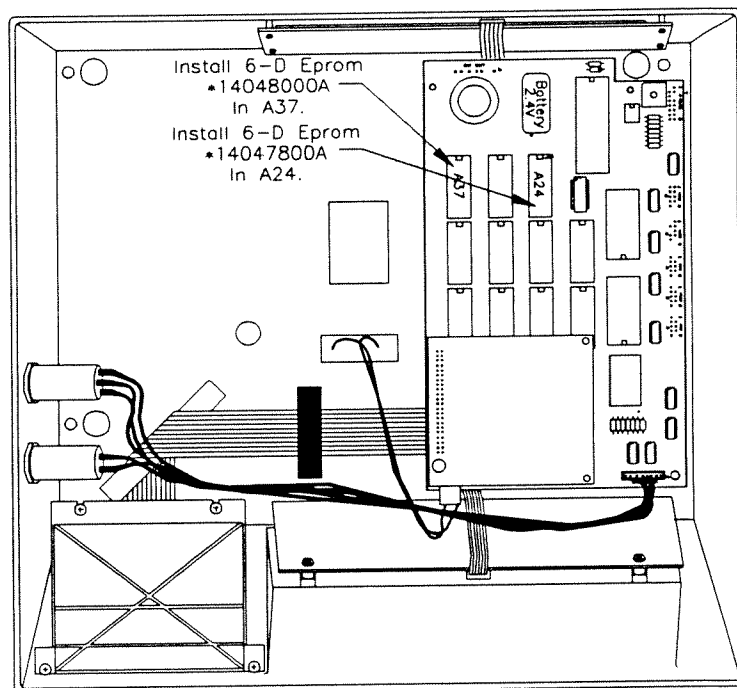

Figure 4.4 Installing 6-Digit PLU Master Software
- 4.3.5 Using an IC extraction tool, remove the EPROM's from A24 and A37 on the Memory PCB. (See Figure 4.4)
- 4.3.6 Install the new EPROM's in the PCB. EPROM *14047800A at A24 and EPROM *14048000A at A37 (Figure 4.4)